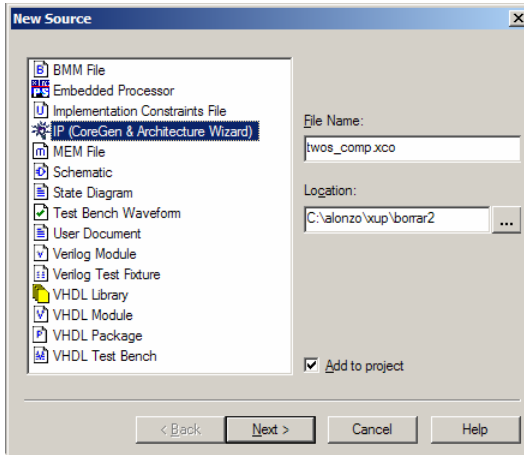

Figure 2: New Source Settings
1. Add new source; Go to **Project** → **New Source**. Name your file **twos\_comp**. On the left hand side, choose **IP (CoreGen & Architecture Wizard)**. Click **Next**. Refer to Figure 2.